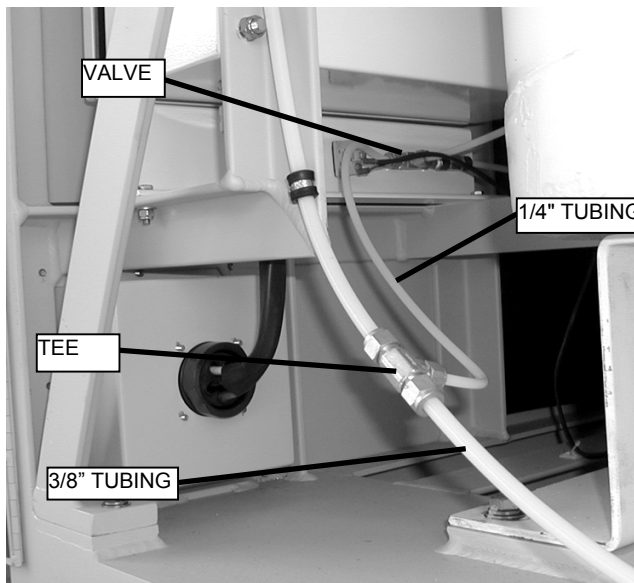
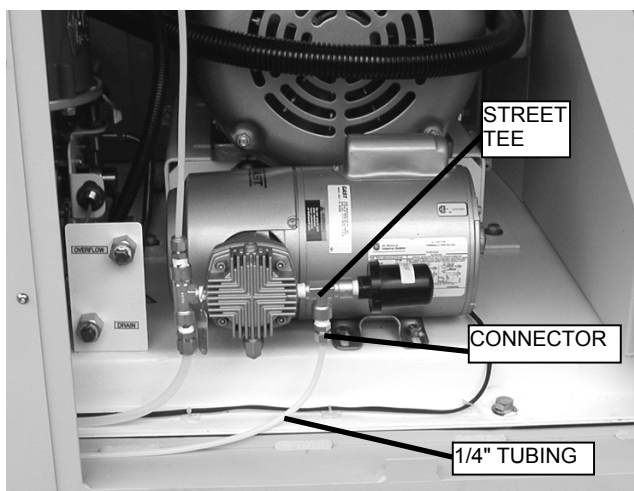

Figure 13. Sample/Calibration Selector Valve Tubing.
Figure 14. Alternate Calibration Tubing Connection.
- b. Remove the 1/4" tube from the branch side of the tee (see Figure 13), or if there is no tee, remove the 1/4" tube from the street tee connector on the vacuum pump (see Figure 14).